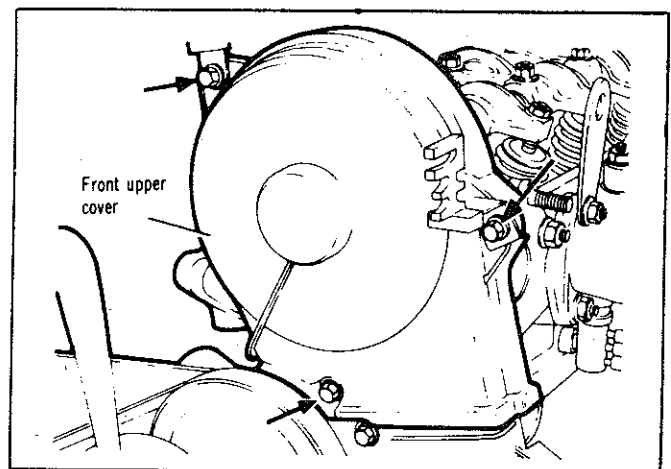

Fig. 12—Removing timing belt upper front cover bolts
(4) Disconnect throttle cable, kick down linkage (if applicable), fuel supply line, vacuum hoses, electrical leads, radiator and heater hoses, etc.
(5) Manually rotate engine to the top dead centre position with No. 1 piston on compression stroke.
(6) If the cylinder head is to be disassembled, the inlet and exhaust manifolds can be removed for easier handling of the cylinder head.
(7) Remove the rocker arm cover.
(8) Remove the timing belt upper front cover, retain bolts and remove the cover (Fig. 12).
(9) With a suitable marking pen, mark the belt in line with the camshaft sprocket timing mark.
(10) Remove the camshaft sprocket retaining bolt and remove the sprocket from the shaft, keeping the sprocket and belt in mesh at all times.